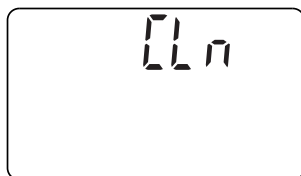

FIG. 17
- **Light flashing, with “CLn” shown in the display** (See Fig. 17) - Four months have elapsed on the system’s timer since start up or the last reset.